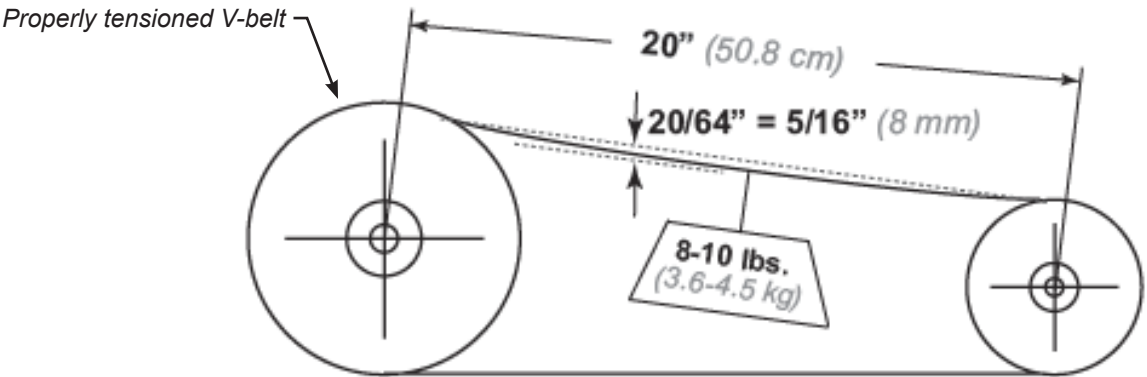

FIGURE 6
1. Check belt tension with a tensioning gauge and adjust using the motor slide base (see Figure 6). Excess tension shortens bearing life while insufficient tension shortens belt and bearing life, and can have adverse affects on air power unit performance and may cause vibration. The lowest allowable tension is that which prevents slippage under full load. Belts may slip during start up, but slippage should stop as soon as the air power unit reaches full speed. For more precise tensioning methods, consult the drive manufacturer's literature.